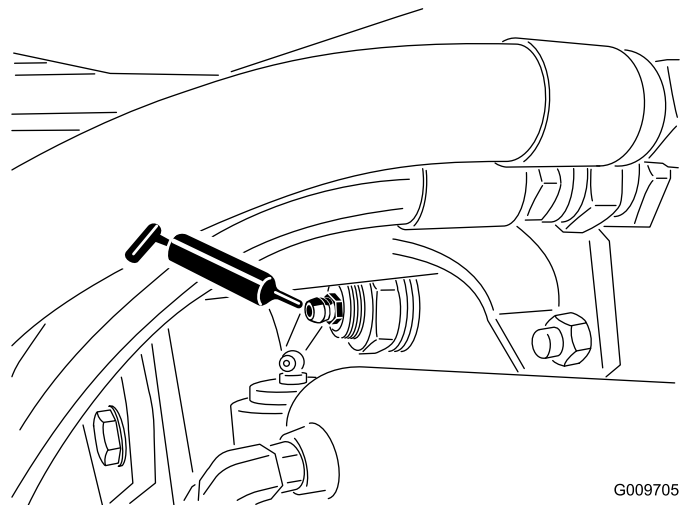

Figure 49
- Rear-axle pivot bushings (2) (Figure 49)